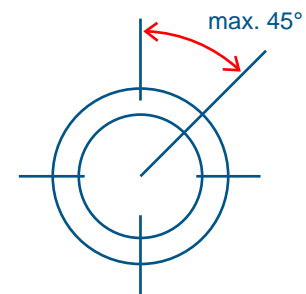

Fig. 1
- ❑ The switches should only be installed in a vertical position, deviation max. 45 (Fig. 1).
- ❑ Loosen the central screw (pos. 1) and disconnect the junction box (pos. 2) from the connector (pos. 3), Fig. 1.